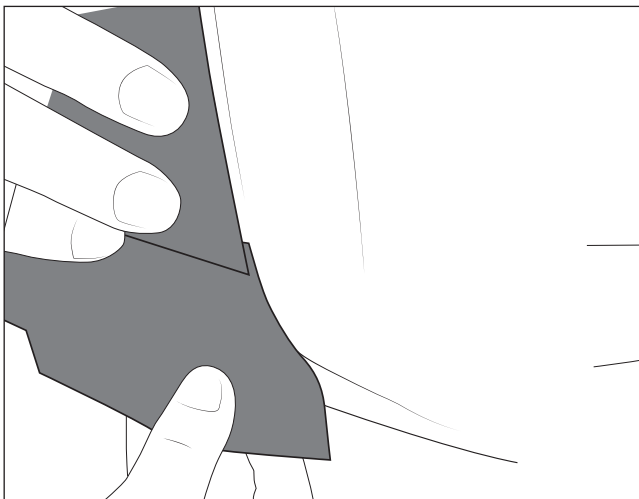

Figure 6
- A. There should be roughly a 1/4" overlap. Upper vinyl overlapping the lower (fig. 6).